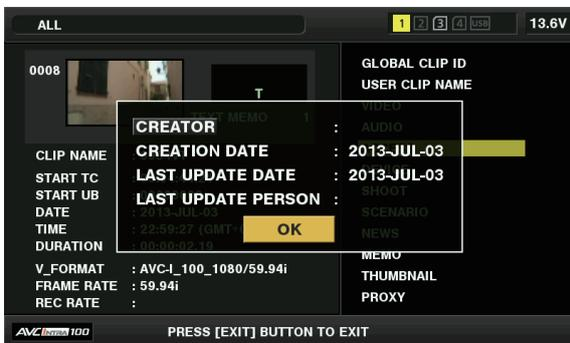

Fig. 1
**2** Place the cursor on the item to be modified using the cursor buttons. (Fig. 1)